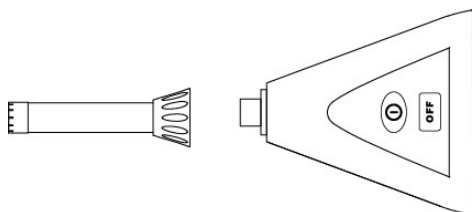

Fig 5
2. Turn the preamplifier and microphone counterclockwise to be separated from the main body. (Refer to Fig 5).